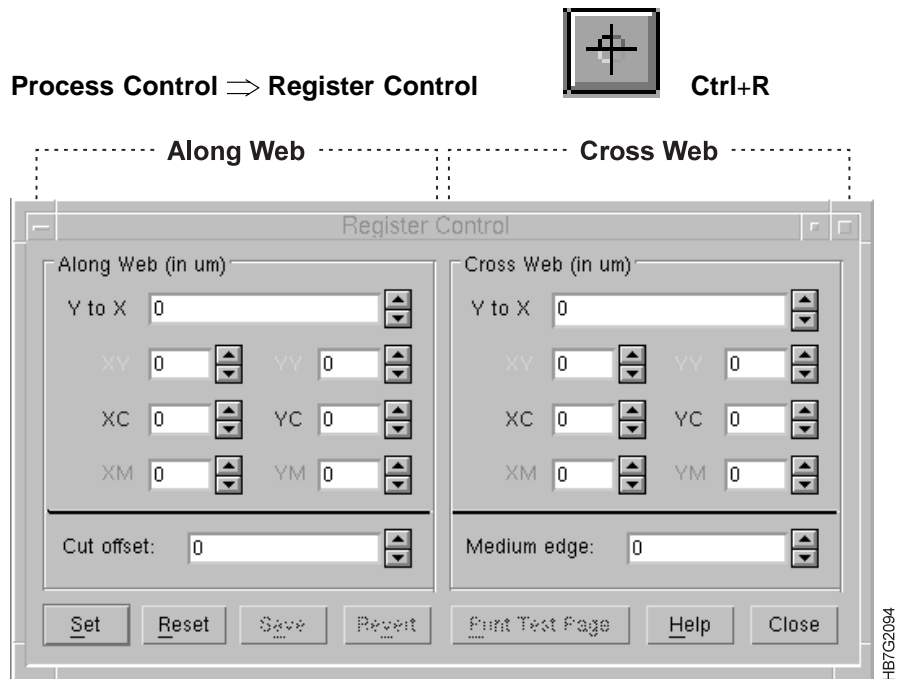

Figure 152. Register Control Window
**Note:** If the colored line crosses the black line closer to zero (0) than to  $+42$ , do not try to make additional corrections.
- 3 Open the **Register Control** window, as shown in Figure 152.
- 4 Adjust the registration values in the **Register Control** window, as shown in Figure 152.